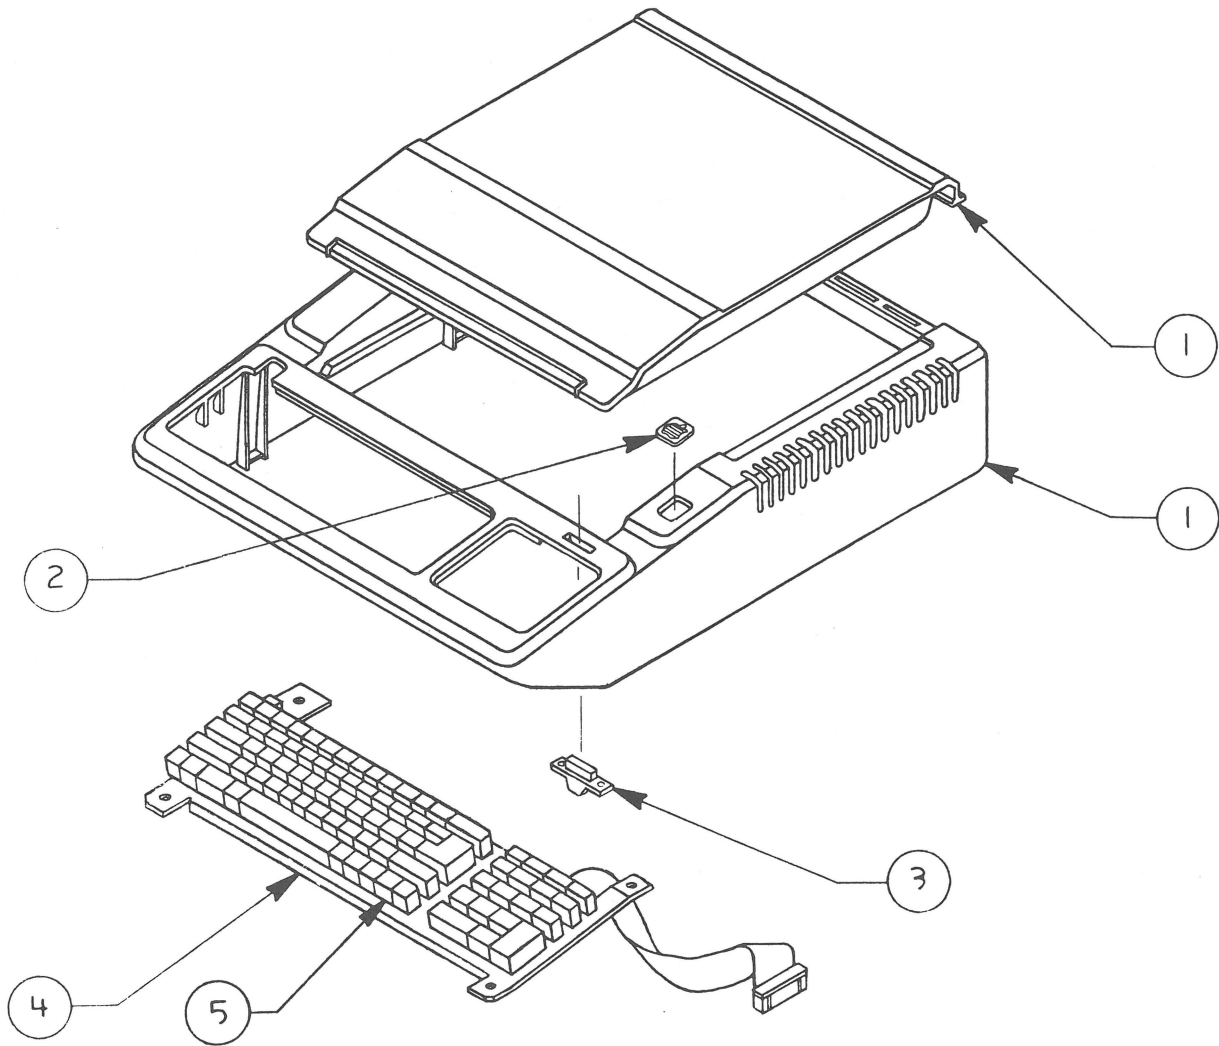

FIGURE 2
□ PLATINUM CASE AND EXTENDED KEYBOARD (Figure 2)